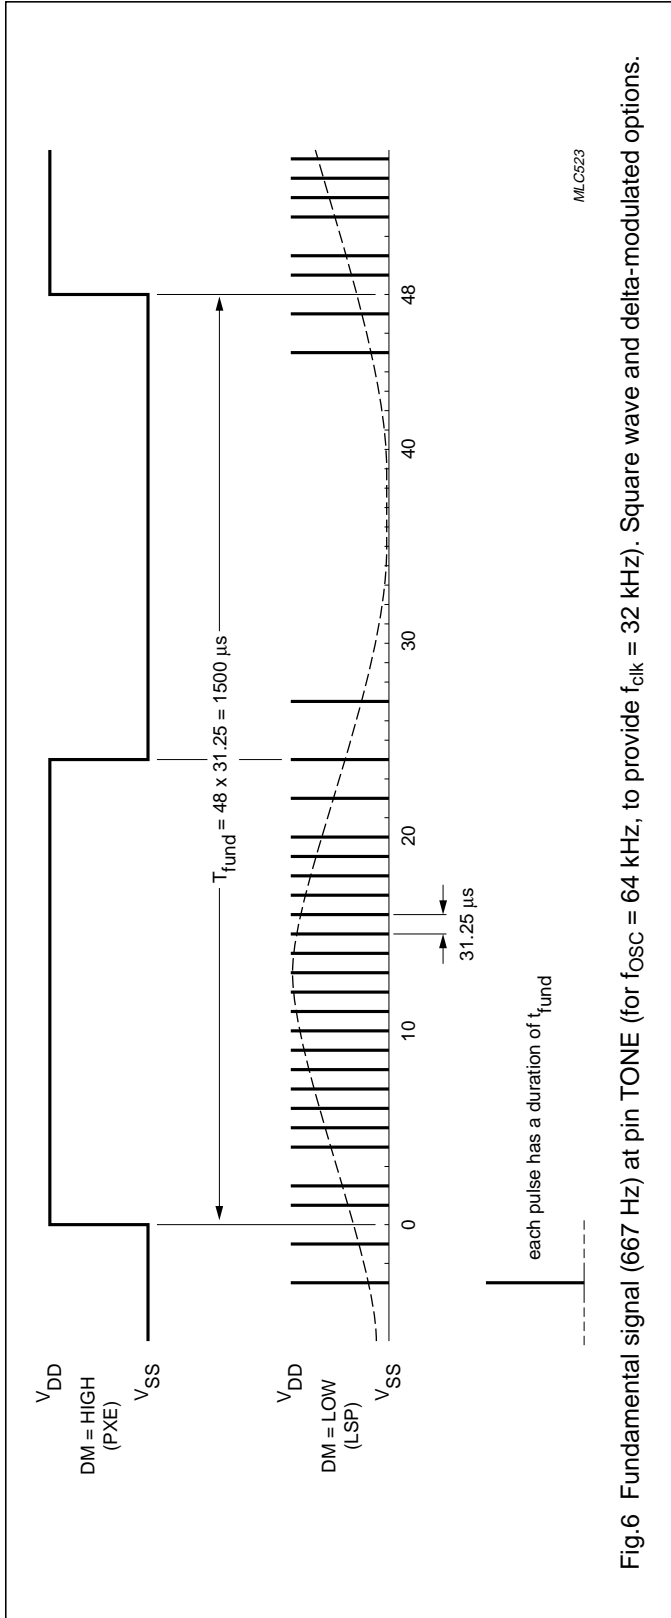
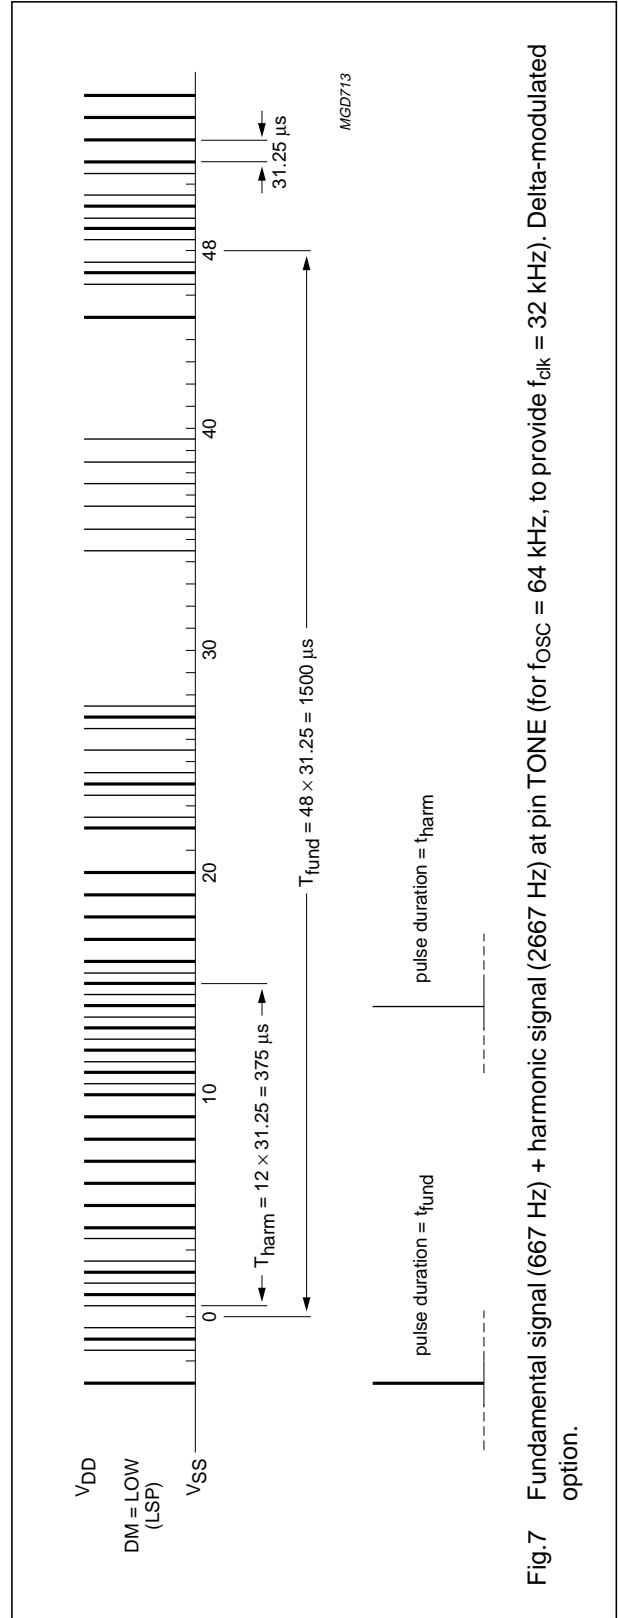

Fig.6 Fundamental signal (667 Hz) at pin TONE (for $f_{osc} = 64$ kHz, to provide $f_{clk} = 32$ kHz). Square wave and delta-modulated options.
Fig.7 Fundamental signal (667 Hz) + harmonic signal (2667 Hz) at pin TONE (for $f_{osc} = 64$ kHz, to provide $f_{clk} = 32$ kHz). Delta-modulated option.
The output signal at pin TONE can be selected for application with electro-dynamic or piezo-electric transducers. An example of both signals, for a tone frequency of 667 Hz, is shown in Fig.6.
1. Typical pulse durations, t_{fund} and t_{harm} , for the delta-modulated approximation of fundamental and harmonic signals; valid for $f_{OSC} = 64 \text{ kHz}$ and $f_{clk} = 32 \text{ kHz}$. See Fig.6 and Fig.7.
To satisfy some applications, a harmonic signal is added to the fundamental frequency in the last step of the automatic swell mode. The pulses representing this harmonic signal are interleaved with the pulses of the fundamental signal (see Fig.7). The difference in pulse duration shown in Table 4, is chosen so that the harmonic level is 10 dB below the fundamental level.